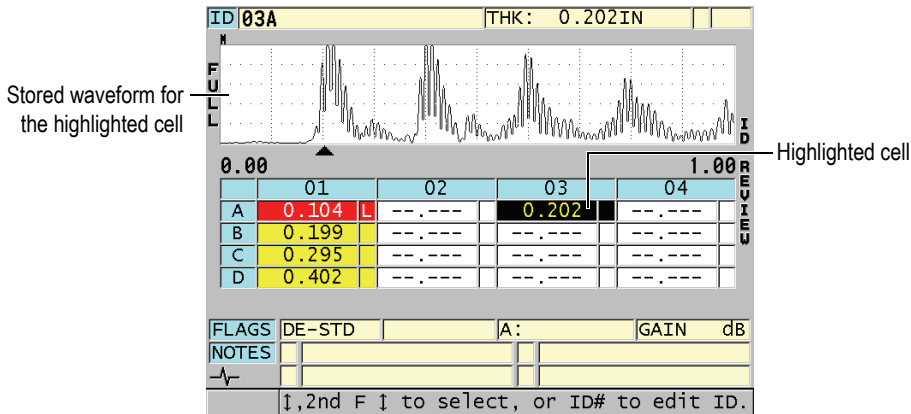

Figure 10-13 The highlighted DB grid cell in the ID review screen
3. In the ID review screen (see Figure 10-13 on page 143):